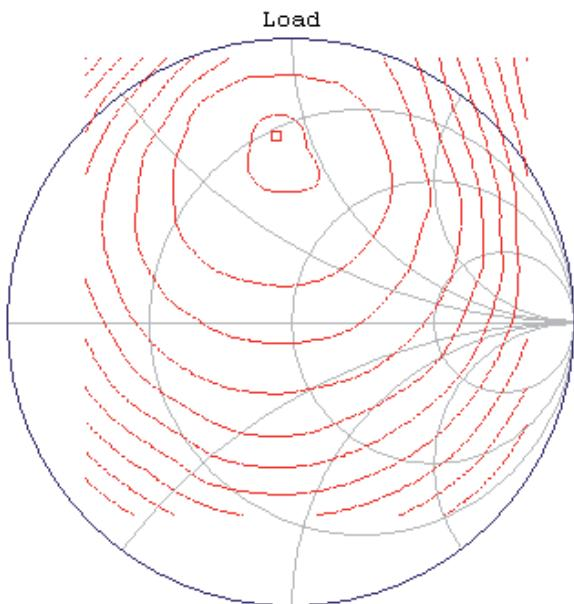

Figure 35. Load pull contour plot for R1=56ohm
2. S and noise parameters are measured on PCB. The PCB material is 10 mils Roger R04350. Figure 35 shows the input and output reference plane.
1. S-parameters are measured on PCB. The PCB material is 10 mils Roger RO4350. Figure 35 shows the input and output reference plane.